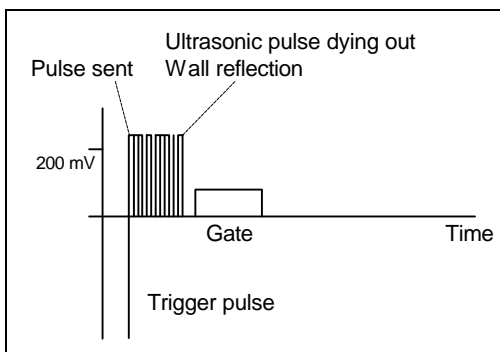
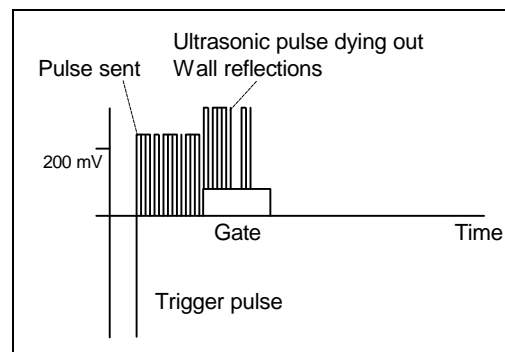

Figure 27: Signal at test output with dying down **with** liquid at limit level
Figure 28: Signal at test output with dying down **with no** liquid at limit level
- If no echo pulses can be seen as illustrated in Figure 27 and Figure 28, increase the transmission energy (P03) and/or the gain (P04) until ultrasonic signals are received continually.